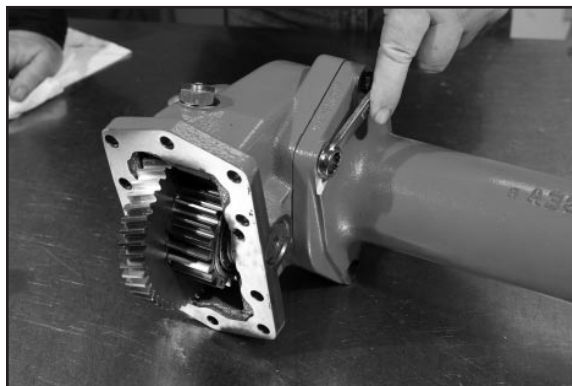

Fig. 1
1. At installation, the input housing is installed to the transmission first. The 890/897 comes from the factory assembled. Remove the 4 bolts that connect the tube section to the input housing (**Fig. 1**).